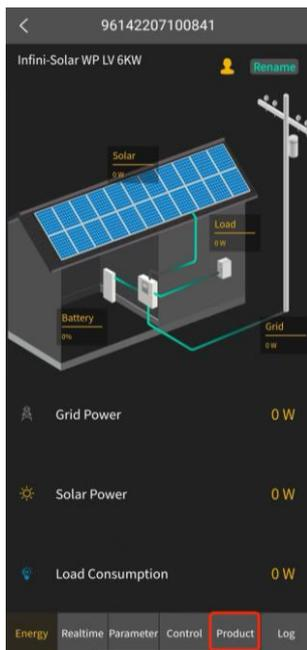

Figure 1
- Click the "Product" button marked in red square in Figure 1 to enter the Product Screen, as shown in Figure 2.